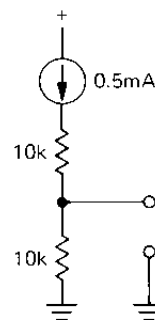
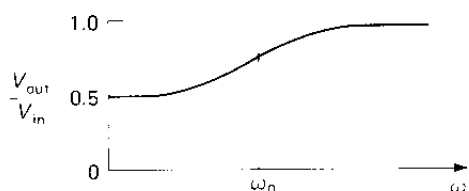

Figure 1.102
Figure 1.103
(2) Find the Thévenin equivalent for the circuit shown in Figure 1.102. Is it the same as the Thévenin equivalent for exercise 1?
(3) Design a "rumble filter" for audio. It should pass frequencies greater than 20Hz (set the -3dB point at 10Hz). Assume zero source impedance (perfect voltage source) and $10\text{k}\Omega$ (minimum) load impedance (that's important so that you can choose R and C such that the load doesn't affect the filter operation significantly).
(4) Design a "scratch filter" for audio signals (3dB down at 10kHz). Use the same source and load impedances as in exercise 3.
(5) How would you make a filter with R s and C s to give the response shown in Figure 1.103?